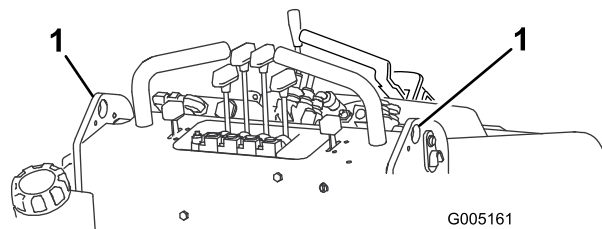

Figure 10
2. Lift the traction unit off the ground, using the two lift points (Figure 10) and move it onto a trailer.